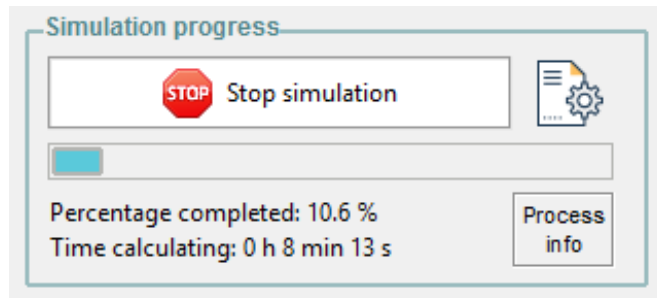

Figure 30. Information about the simulation progress
- **Simulation progress:** this area of the user interface will show some information about the calculation progress (Figure 30).